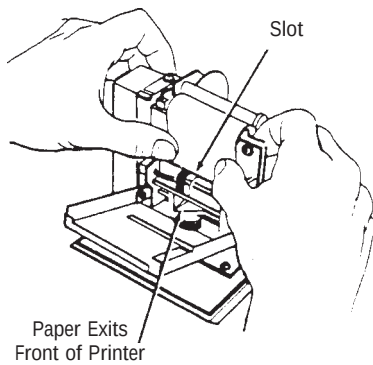

**Figure 5-15**
4. Slide pointed end of paper into slot at top of printer until it exits from the front side of printer (Figure 5-15).